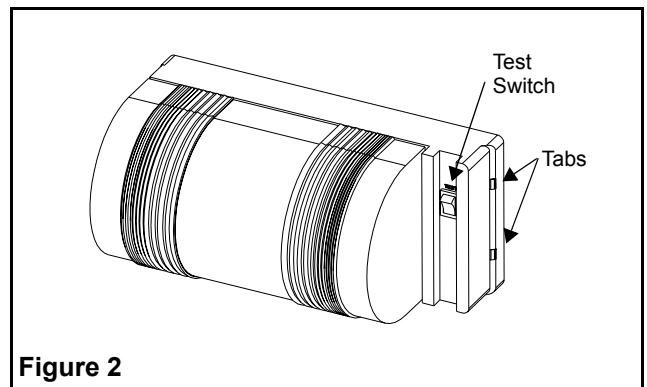

Figure 2
2. Remove the backplate by pressing on the tabs (see fig. 2) with a screwdriver.
4. Determine the desired position of the test switch (see fig. 2) before mounting the backplate.
Press test switch (see fig. 2). The emergency lamps will illuminate. When switch is released, lamps will go off. Allow unit to charge for 24 hours before initial testing.